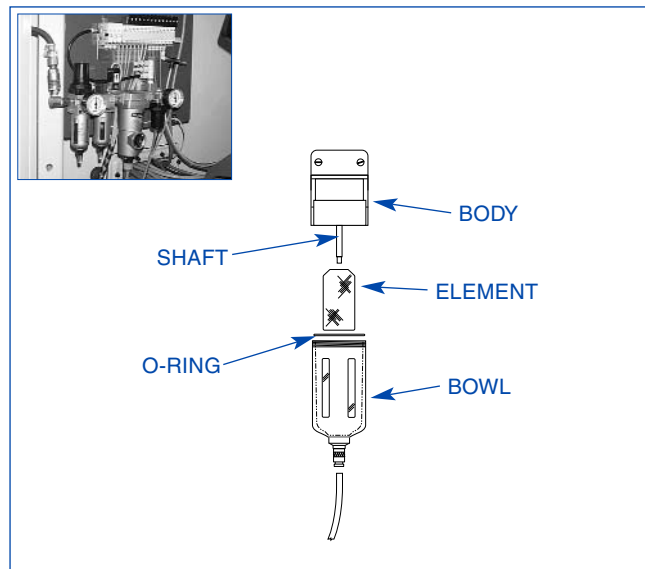

FIGURE 4-6, Mist Separator
4. Mist Separator (see Figure 4-6):